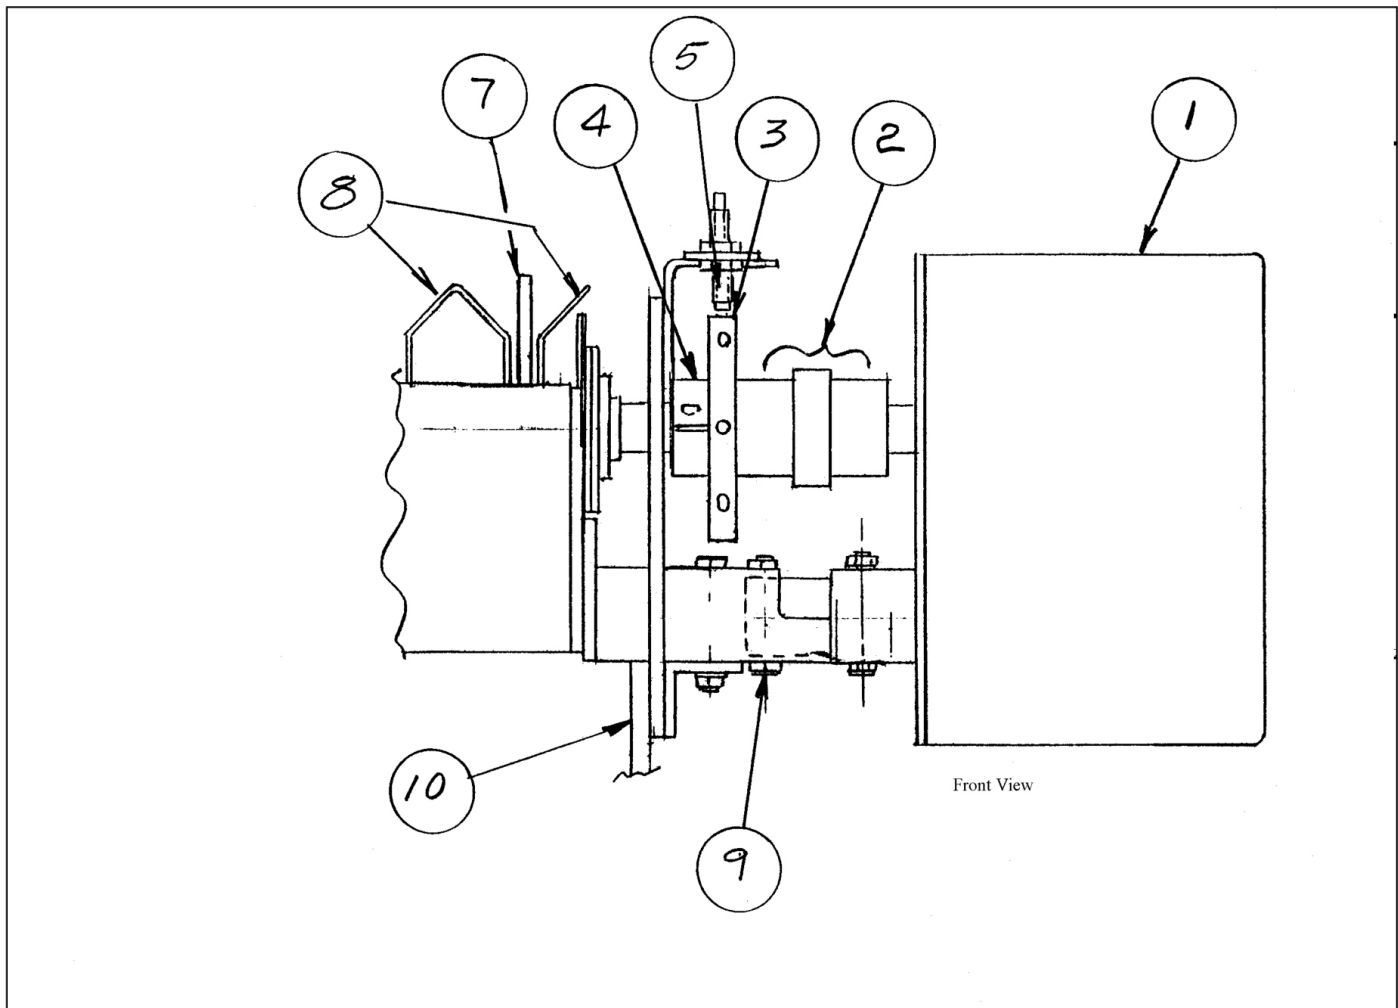

Figure 7: Motor, front view
1. Locate the magnet wheel adjustment collar (see Figure 7, Appendix A).